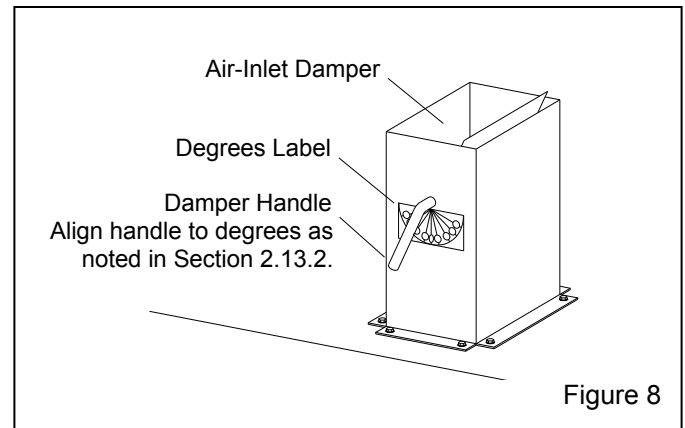

Figure 8
2.13 Cabinet Air-Inlet Damper, Refer to Figure 8